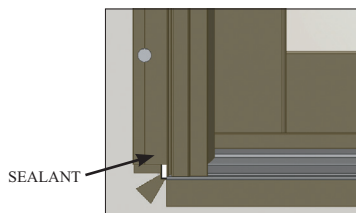

FIG. 22
- A) **IMPORTANT!** Below the nail fin at both bottom corners, apply a generous amount of silicone to seal the void between the rough opening and the sill. If the gap is too large, insert backer material in the void prior to sealing. (Fig. 22)